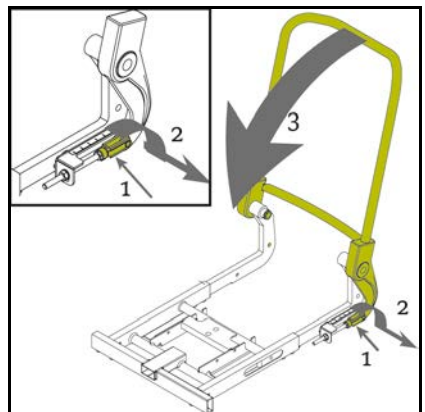

Figure 3.6
1. Release the circlip from the adjustment bar (fig 3.6).
2. Pull the lock pin out of the hinge joints (fig 3.6).
3. Fold down the backrest (fig 3.6).